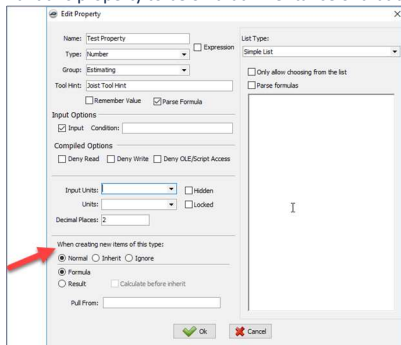

Figure 14
20. The **When creating new items of this type:** area can be set to **Normal**, **Inherit**, or **Ignore** (Figure 14). The **Normal** setting allows for inherited properties to be editable. The **Inherit** setting allows properties to be modifiable but only by permission. The **Ignore** means that "anytime I inherit a property, I specifically do not